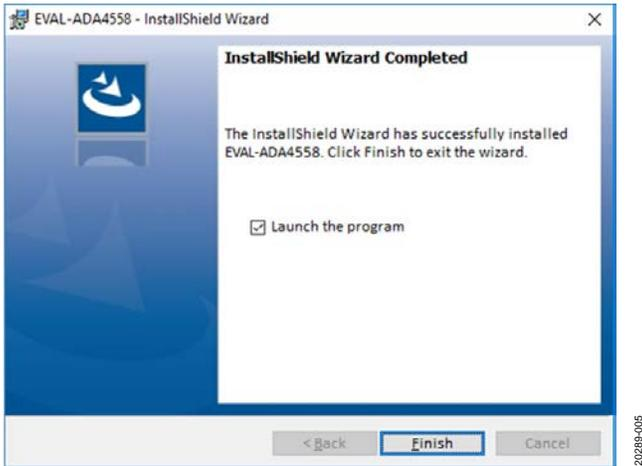

Figure 5. EVAL-ADA4558EBZ Software Installation: Installation Complete
6. When the installation completes, click **Finish** (see Figure 5).